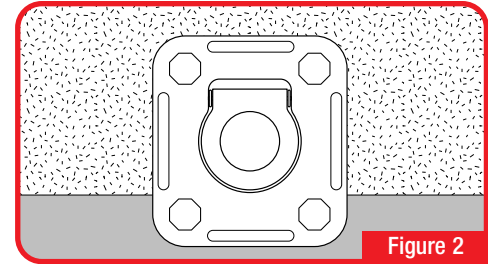

Figure 2
- 1 Recessed D-Rings should be mounted to the base of a trailer with Grade 8 hardware. Figure 2.